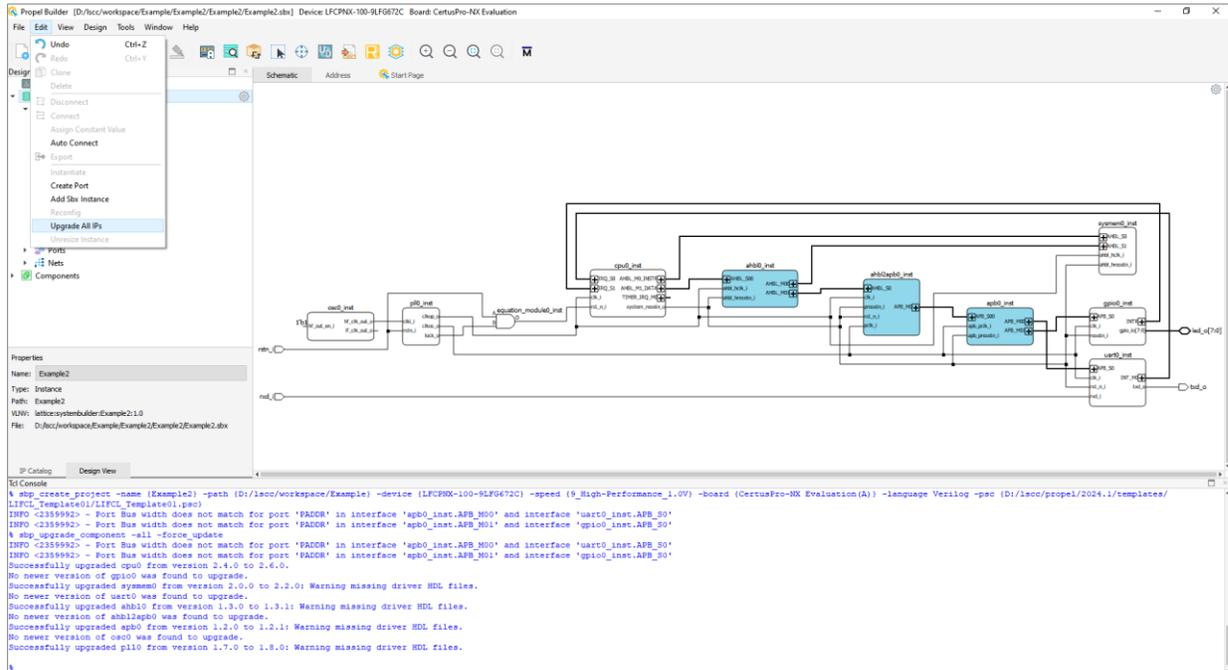

Figure 2.27. Upgrade All IPs
- (Optional) Propel Builder also supports to update all IPs. Choose **Edit > Upgrade ALL Ips**. Wait a few seconds, depending on how sophisticated the design is, to see the result (Figure 2.27).